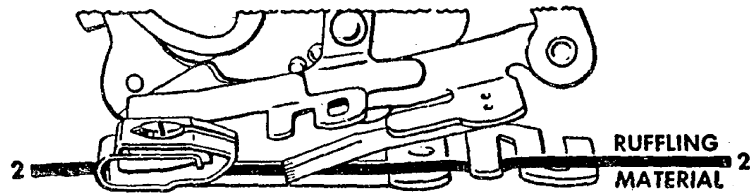

Fig. 75. Correct Position for Material
3. Insert material to be pleated between two blue blades **Line 2, Fig. 75.**